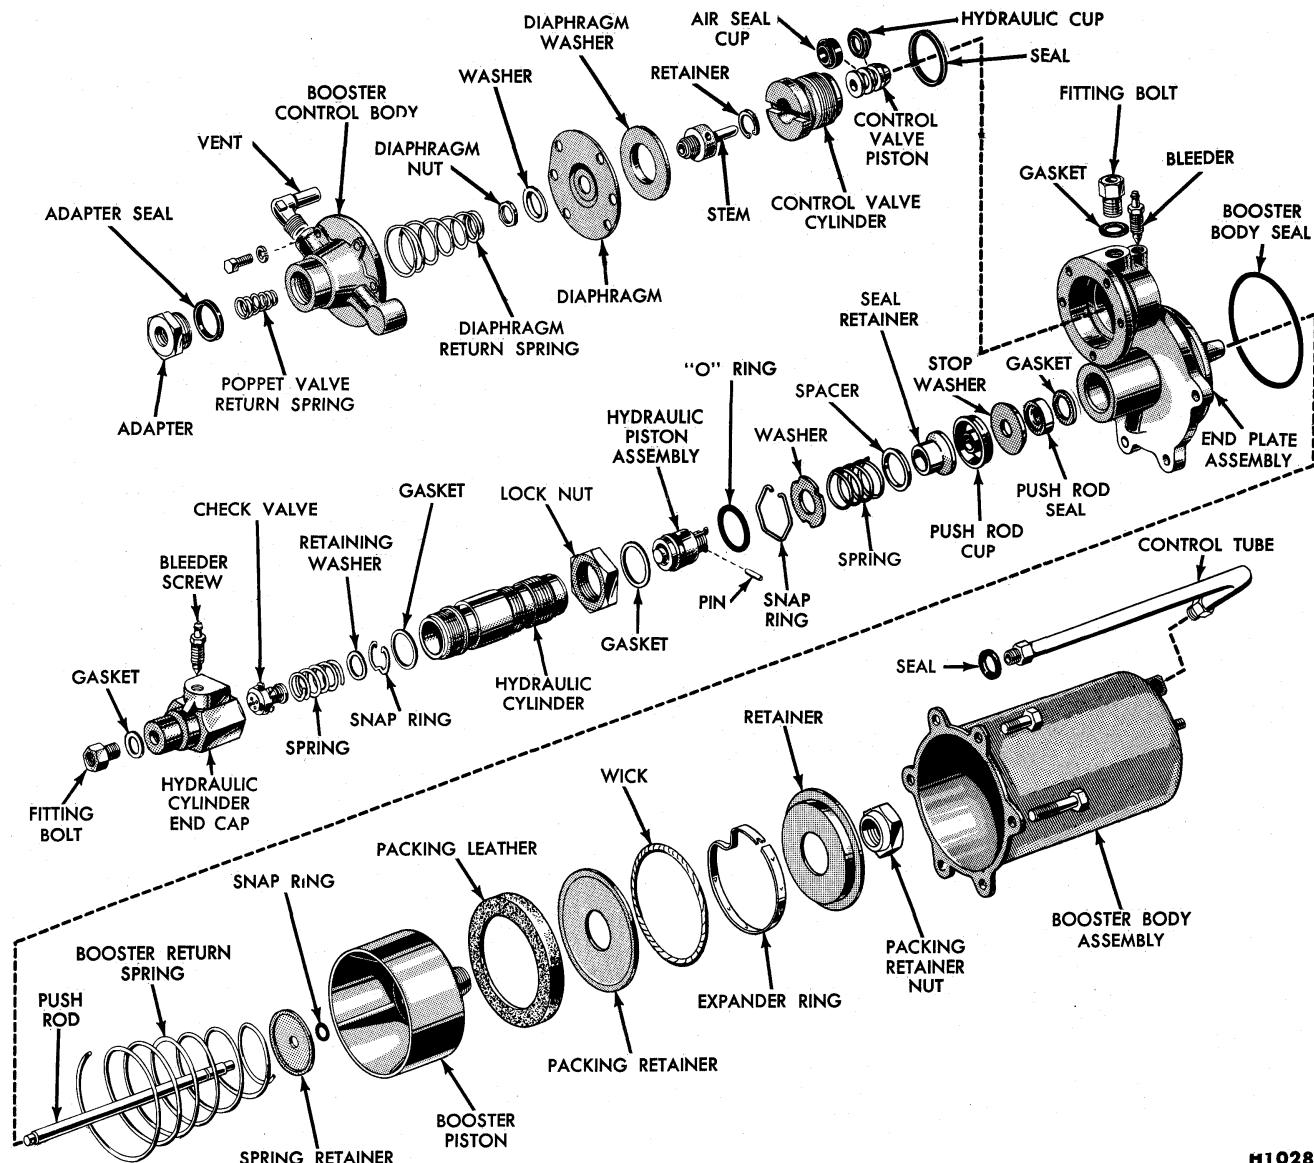

FIG. 3—Air-Hydraulic Booster—Disassembled
1. Disconnect the control tube (Fig. 3) from the booster control body and end plate assemblies. Remove the control tube seal from the control body with the control tube.